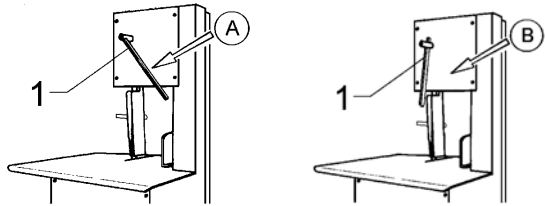

Fig. 7.6.1
7.6.1 - Blade tensioning setting (Fig. 7.6.1)
Blade tensioning could be settled mechanically moving knob “1”. Rotate the knob in position “A” (Fig. 7.6.1) blade is tensioning. To unblock the blade rotate the knob in the position “B”.
- Stretch the blade rotating the knob in position “A” (Fig. 7.6.1).